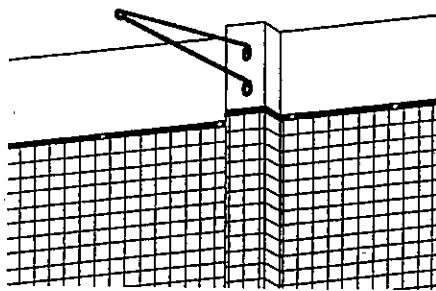

Figure 11
**Figure 11.** If this configuration exists and a horizontal board cannot be installed to make the bracket and netting align, install banding, without cutting it, closely around posts that protrude. Netting slack at the end of the bracket may be taken up later with twist ties.